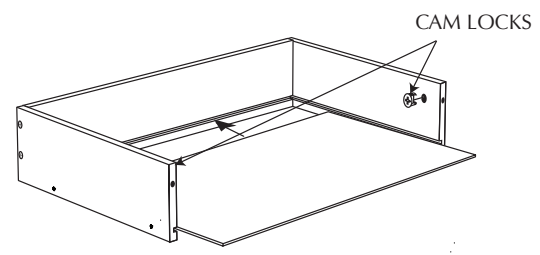

Fig. 2
1. Attach drawer sides to drawer back with four (4) #8 x 1-1/4" Phillips Head Screws.
2. Insert the drawer bottom into the slot along the bottom of the drawer sides. (See Fig. 2.) Push the cam locks into the holes in the drawer sides. Be sure to orient cams so that the open end of the cam faces the hole in the front edge.